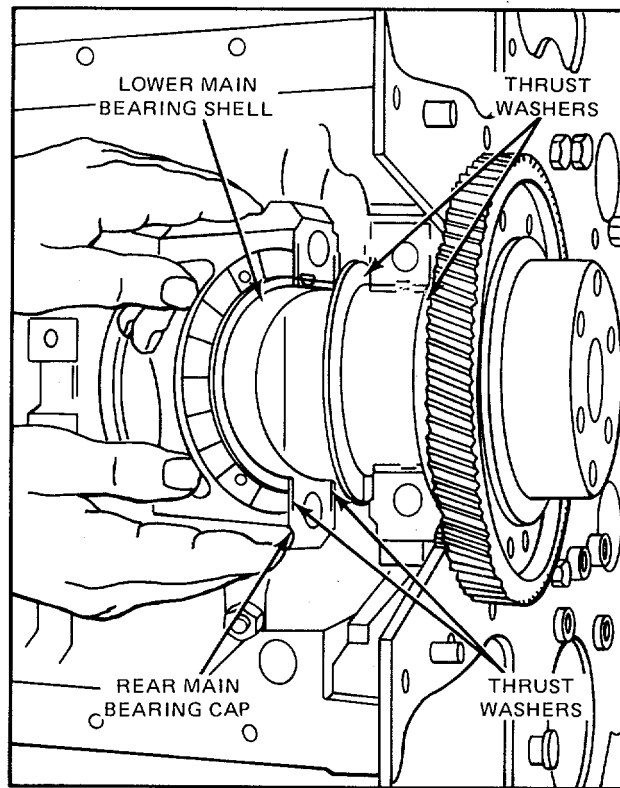

Figure 7. Crankshaft Thrust Washers in Place
3. Assemble the crankshaft thrust washers (Fig. 7) before installing the rear main bearing cap. Clean both halves of each thrust washer carefully and remove any burrs from the washer seats; the slightest burr or particle of dirt may decrease the clearance between the washers and the crankshaft beyond the specified limit. Slide the upper halves of the thrust washers into place. Then assemble the lower halves over the dowel pins in the bearing cap.